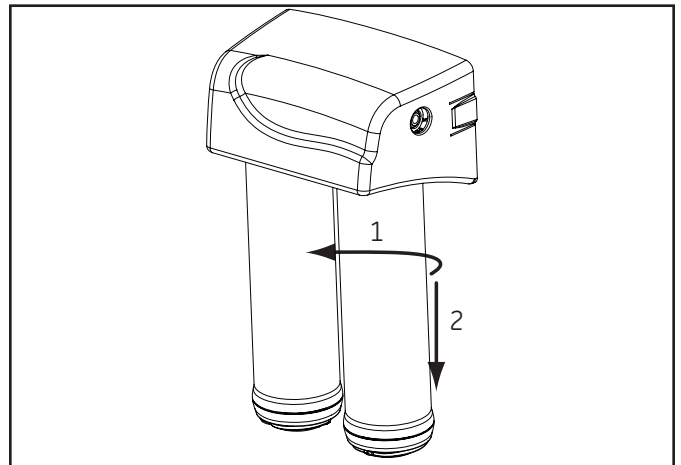

Figure 9
- B) Place hand on filter head assembly to steady the system. Rotate the filter cartridge 1/4-turn counterclockwise until no resistance is felt. Pull the cartridge down and straight out from the filter head assembly (Figure 9).